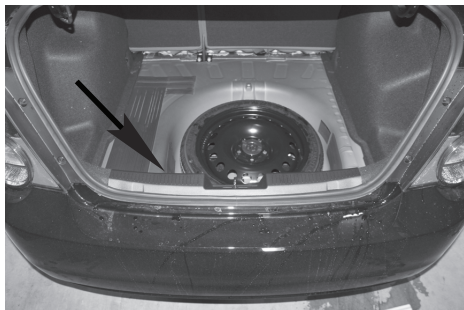

Figure 1
2. Open trunk and remove spare tire floor cover and set to the side. To remove threshold plate remove four push pins on front of threshold plate shown in **Figure 1** by pushing in the centers and then removing. Pull up on threshold to remove and set to the side.